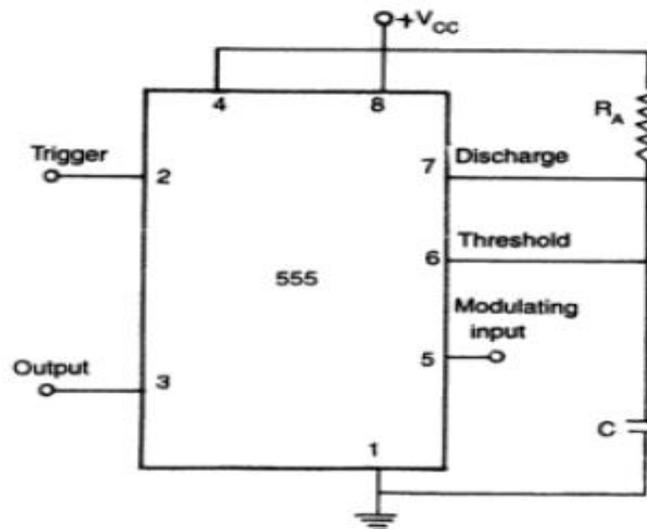

Figure 13: Pulse width modulator
- The circuit is shown in Fig. 13. This is basically a monostable multivibrator with a modulating input signal applied at pin – 5.